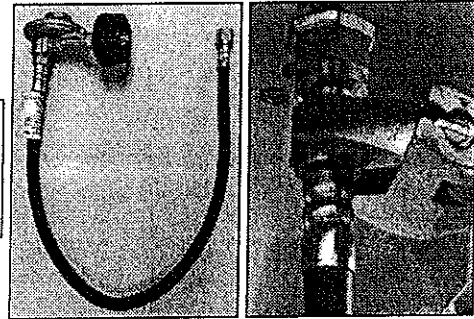

Fig. 4
1. Remove the gas hose assembly from the Flare Fitting. (this has the regulator attached to it.) (See Fig 4)